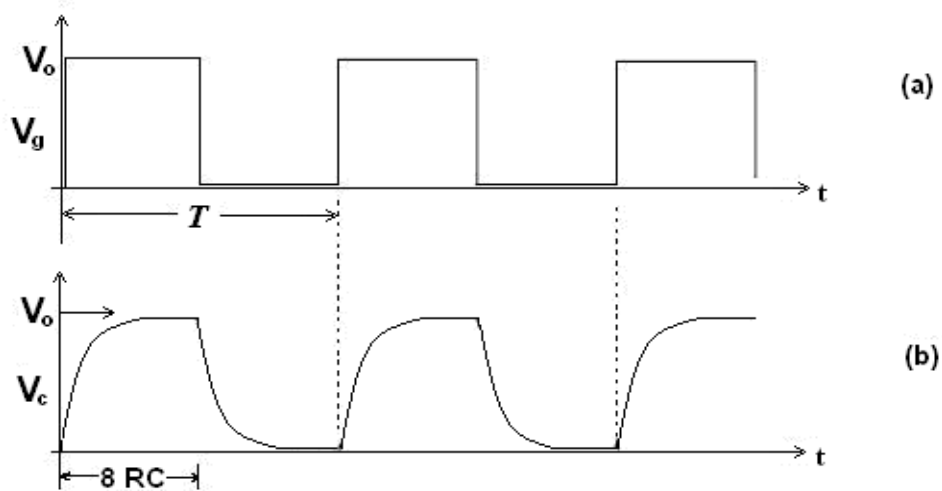

Figure 6: (a) A square wave voltage applied to an RC circuit, and (b), the resulting capacitor voltage as a function of time, where $T \sim 16RC$.
such a square wave generator is depicted in Figure 6(a). T is the time for one period of the square wave. If such a voltage is applied to a capacitor-resistor pair then the capacitor will alternately charge and discharge through the resistor, its voltage varying with time according to Figure 6(b). It is assumed in this figure that the period of the generated waveform T is approximately equal to $16 RC$, so that the capacitor becomes nearly fully charged or discharged during successive half-periods. In this experiment, T is approximately $20 RC$ in order to make measurements of capacitors in both series and parallel connections.
If the oscilloscope is connected across the capacitor, the capacitor voltage of Figure 6(b) can be displayed on the oscilloscope. The sweep frequency of the oscilloscope time base may be adjusted so that just one full period, T , of the function generator output is displayed. If the time-axis is calibrated, the time constant of the circuit can be measured by measuring the time over which the voltage across the capacitor drops to $1/e$ value of the maximum value of the voltage across the capacitor.
3. Using the resistor R_I and the first $0.10\mu\text{F}$ capacitor C_1 , construct the series R - C circuit as shown in Figure 6. **Be careful not to mix up ground terminals.** The low side (-) of the function generator and one side of the oscilloscope terminals are grounded - thus the circuit must be connected exactly as shown in Figure 6, i.e., one side of the capacitor must be common with the ground (-) terminals of the scope and function generator.